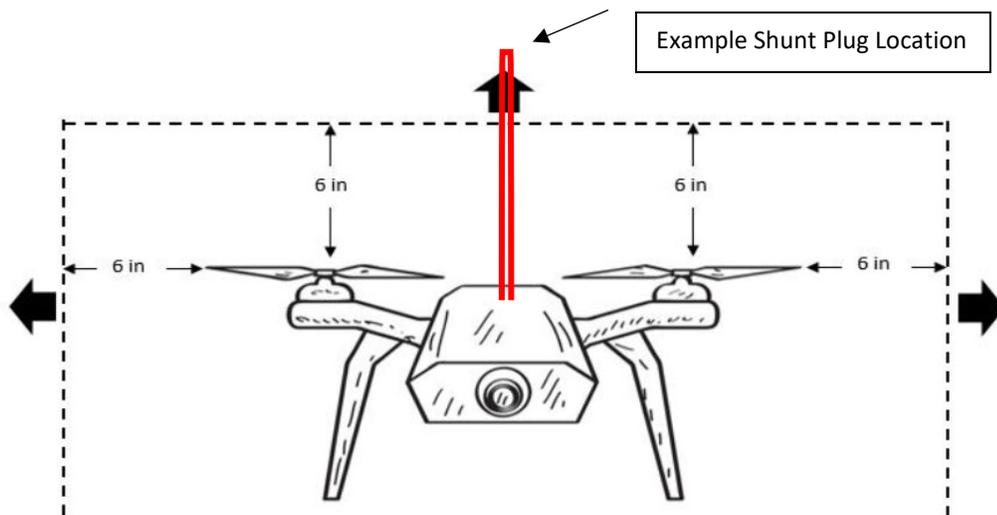

Figure 6. Allowable Location for Propulsion System Shunt Plug
- **The tip of the shunt plug, where someone would grab it, must be located outside the dotted line as shown in Figure 6, below.**